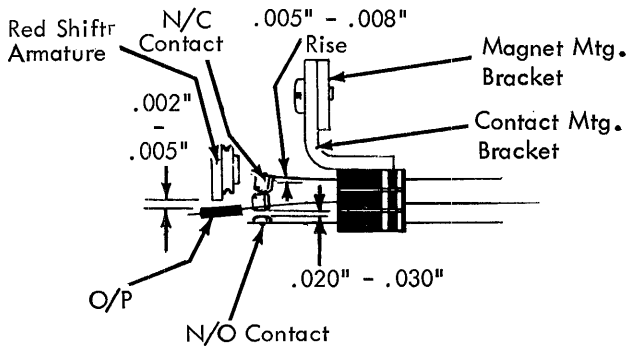

FIGURE 279. Ribbon Transmit Contact Assembly
7. Ribbon Mode Contacts (Fig. 279) -